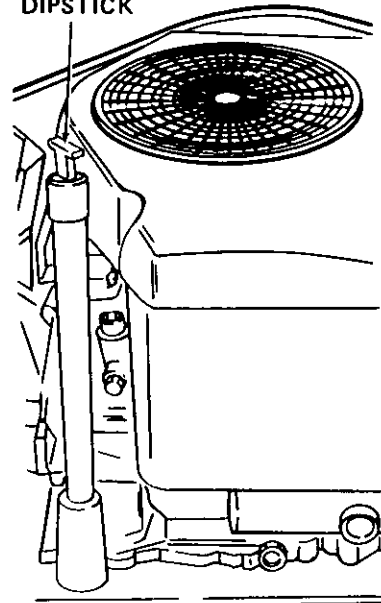

Figure 14
1. Check oil level. The oil fill and dipstick are located on the right rear side of the engine. (Refer to Figure 14.)